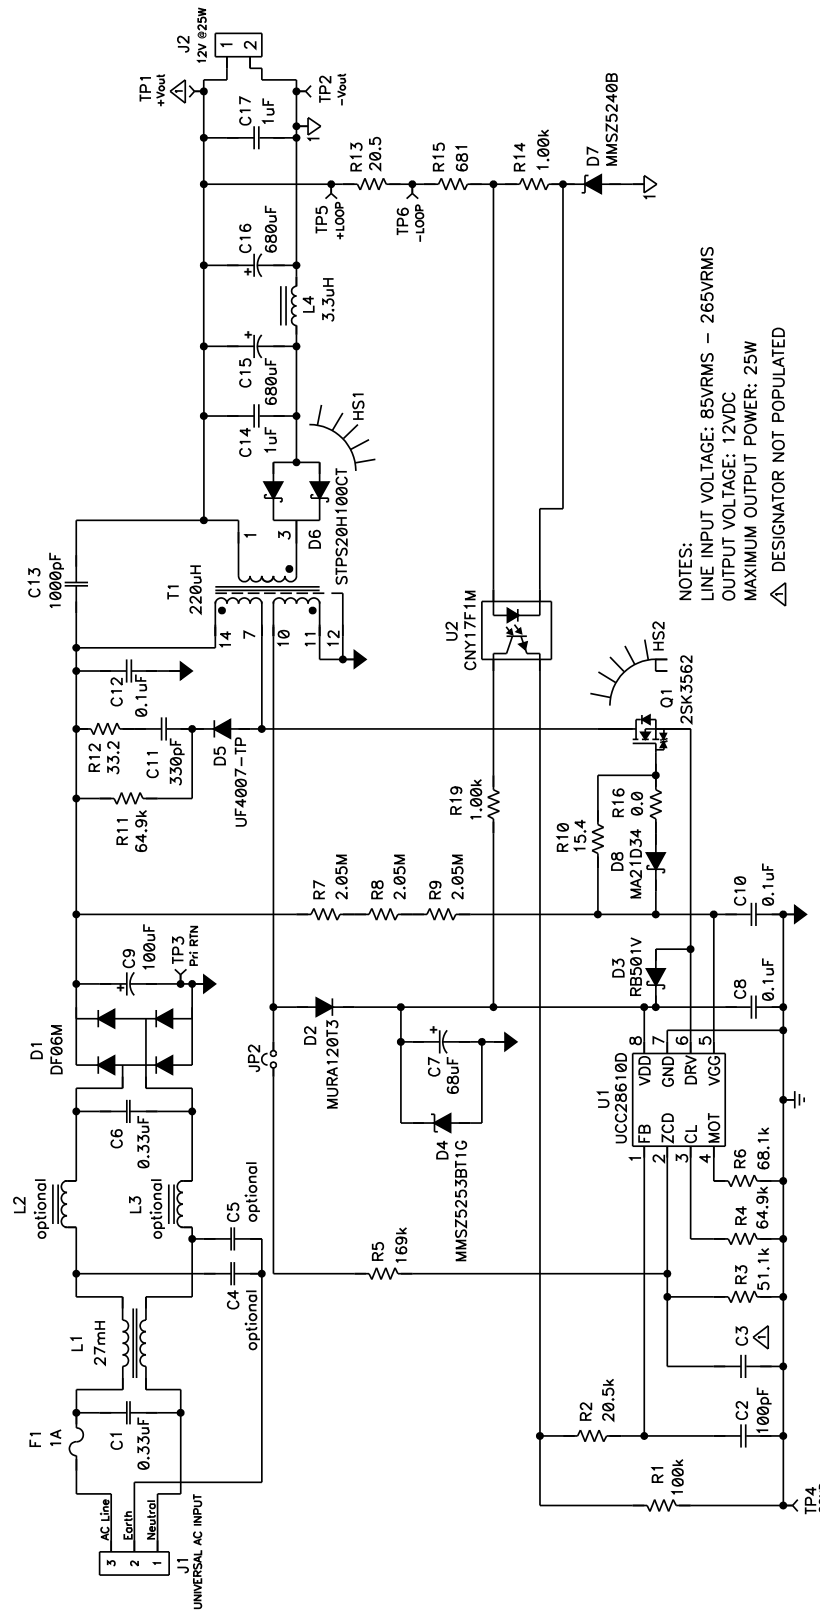
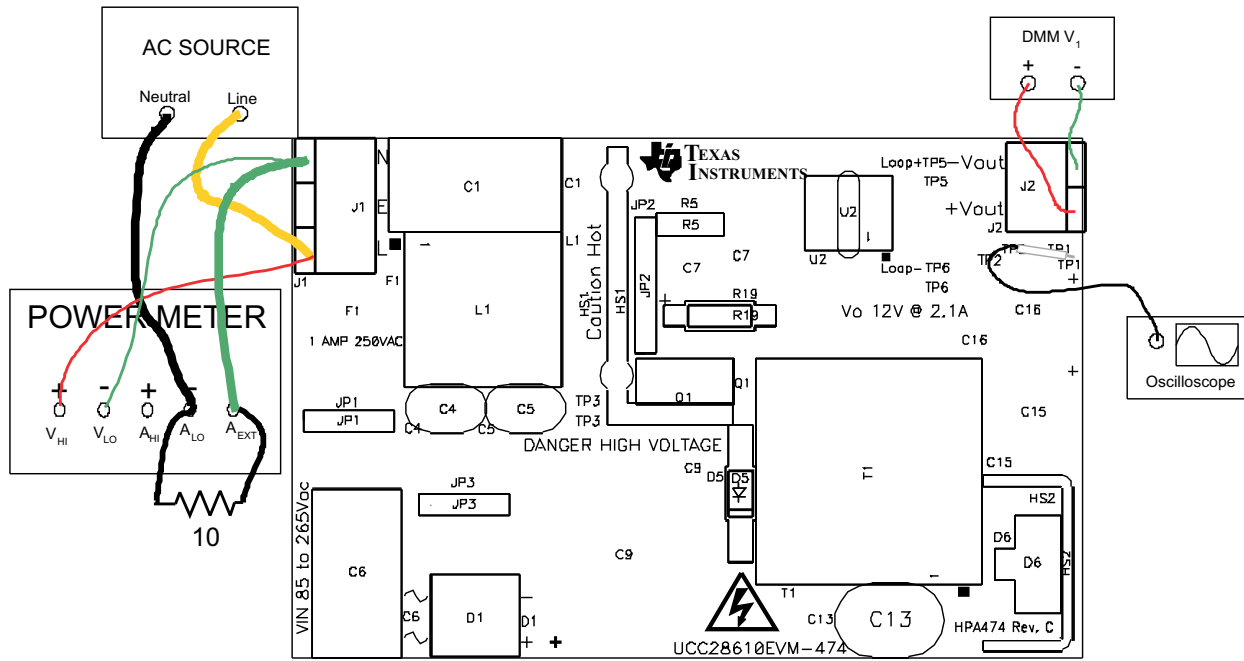
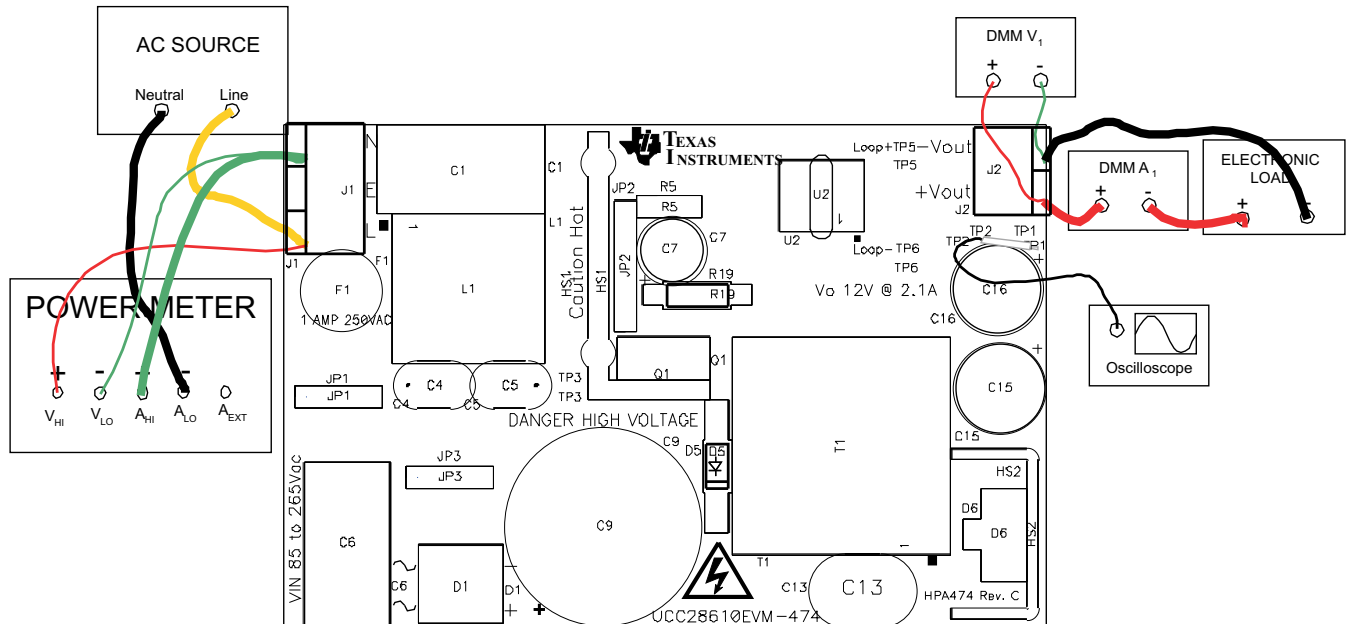

Figure 2. UCC28610EVM-474 Schematic
Figure 3. UCC28610EVM-474 Recommended Test Set Up Without a Load
Figure 4. UCC28610EVM-474 Recommended Test Set Up With a Load
Figure 2 shows the equipment set up when measuring the input power consumption during no load. Note the addition of the 10- Ω shunt resistor in Figure 3. During the no-load test, the power analyzer should be set for long averaging in order to include several cycles of operation and an appropriate current scale factor for using the external shunt must be used. Figure 3 shows the basic test set up recommended to evaluate the UCC28610EVM-474 with a load.
See Figure 3 and Figure 4 for recommended test set ups.
- **AC Input Source:** The input source shall be an isolated variable AC source capable of supplying between 85 V_{RMS} and 265 V_{RMS} at no less than 30 W and connected as shown in Figure 3 and Figure 4. For accurate efficiency calculations, a power meter should be inserted between the neutral line of the AC source and the Neutral terminal of the EVM. For highest accuracy, connect the voltage terminals of the power meter directly across the Line and Neutral terminals of the EVM.
- **Load:** For the output load, a programmable electronic load set to constant current mode and capable of sinking 0 to 3 A_{DC} at 12 V_{DC} shall be used. For highest accuracy, V_{OUT} can be monitored by connecting a DC voltmeter, DMM V_1 , directly across the +Vout and -Vout terminals as shown in Figure 3 and Figure 4. A DC current meter, DMM A_1 , should be placed in series with the electronic load for accurate output current measurements.
- **Power Meter:** The power analyzer shall be capable of measuring low input current, typically less than 10 mA, and a long averaging mode if low power standby mode input power measurements are to be taken. An example of such an analyzer is the Voltech PM100 Single Phase Power Analyzer. To measure the intermittent bursts of current and power drawn from the line during no-load operation, an external 10- Ω shunt, with a current scale factor of 10 A/V, was used at a high sample rate over an extended period of time in order to display the averaged results (refer to Figure 3).
- (a) If no-load input power measurements are to be made, set the power analyzer to long averaging and external shunt mode. Insert a shunt, such as a 10- Ω resistor as shown in Figure 3, in series with the Neutral terminal of the EVM. Set the appropriate current scale on the power analyzer.
- (b) For operation with a load, as shown in Figure 4, set the electronic load to constant current mode to sink 0 A.
1. Use the test set up shown in Figure 3.
- (a) Use the test set up shown in Figure 4.